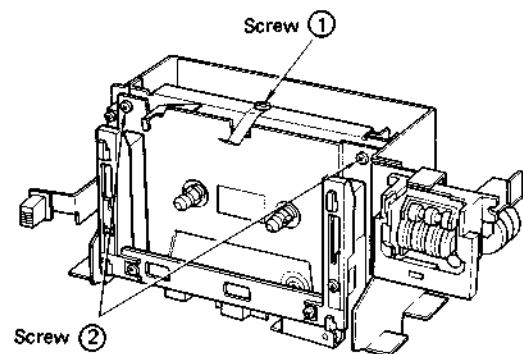

Fig. 7
- 1) Remove the mechanism assembly as described in procedure 1 above. To remove the cassette spring, undo screw ① shown in Fig. 7.
- 2) To remove the make-up plate, undo 2 screws ② shown in Fig. 7.